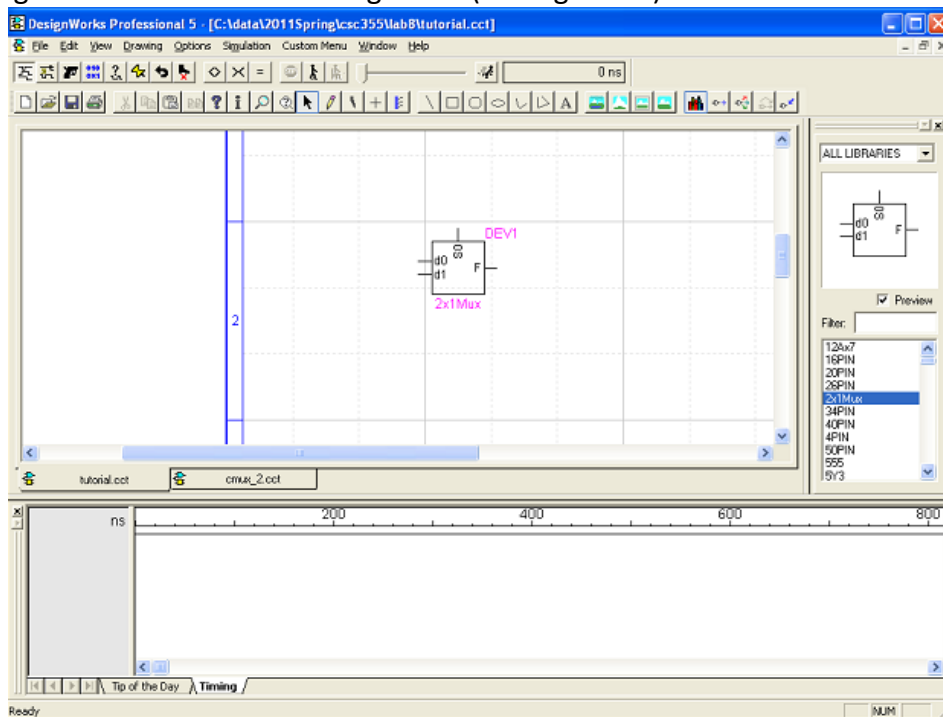

Figure 11
q. Drag the **2x1 Mux** to the design area (see Figure 11).